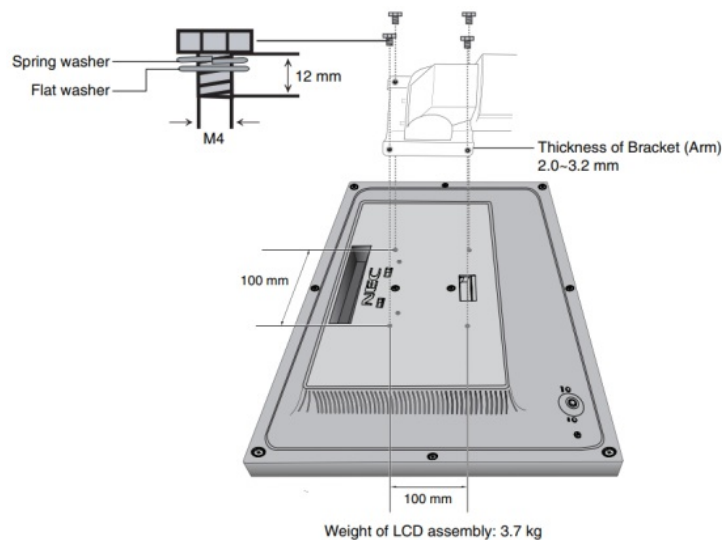

Figure F.1
2. Using the specified 4 screws, attach the arm to the monitor (Figure F.1).